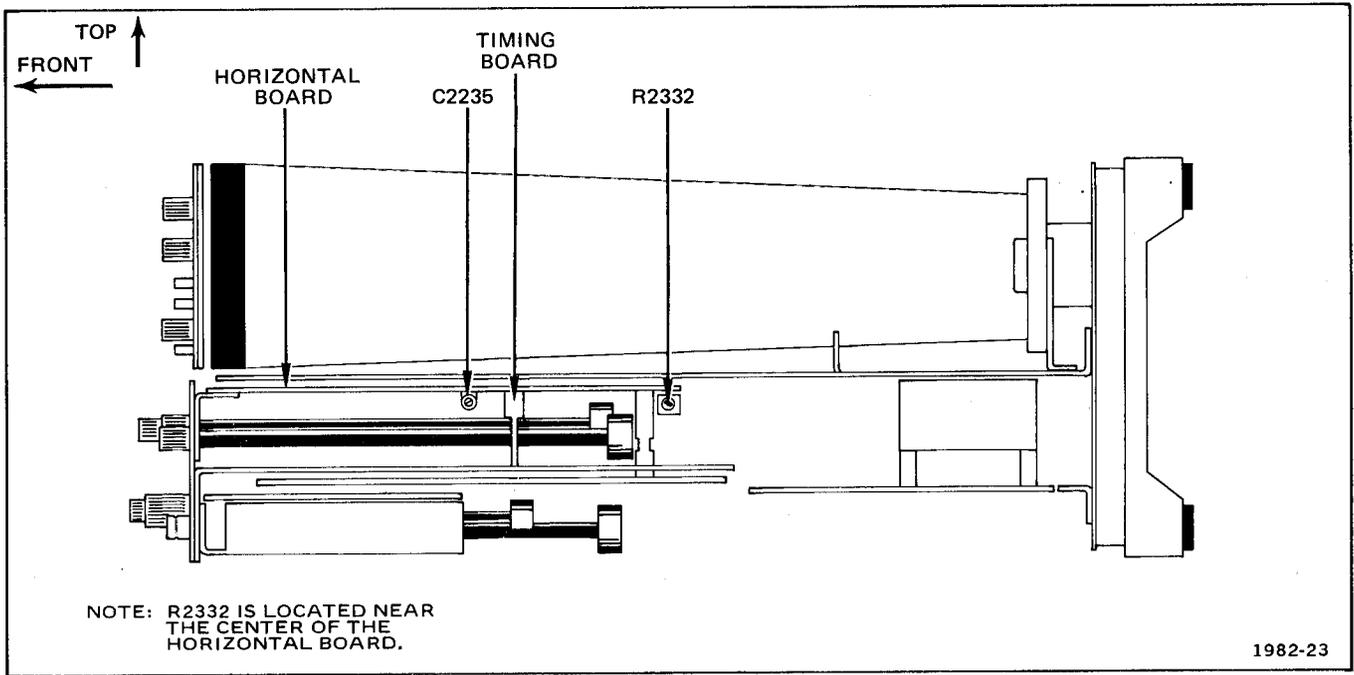

Fig. 4-6. Time base adjustment locations.
b. ADJUST—Horiz Cal R2332 (see Fig. 4-6 or Fig. 4-1B) and horizontal POSITION control for 1 time marker per division over center 8 divisions.
b. ADJUST—C2235 (see Fig. 4-6 or Fig. 4-1B) and horizontal POSITION control for 1 marker per division over center 8 divisions.